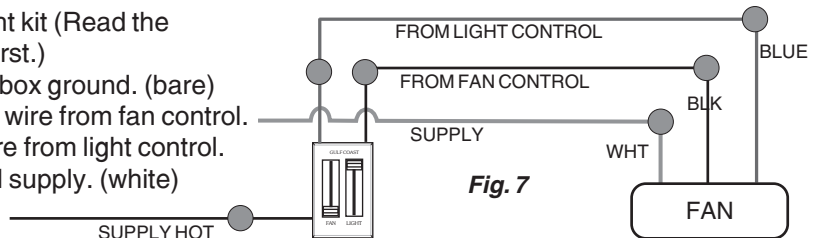

Fig. 7
2. Remove one canopy screw (also Fig 7) and loosen the other. Make sure all of the wires are accessible and are not being pinched. Also, make sure the bracket doesn't wobble.